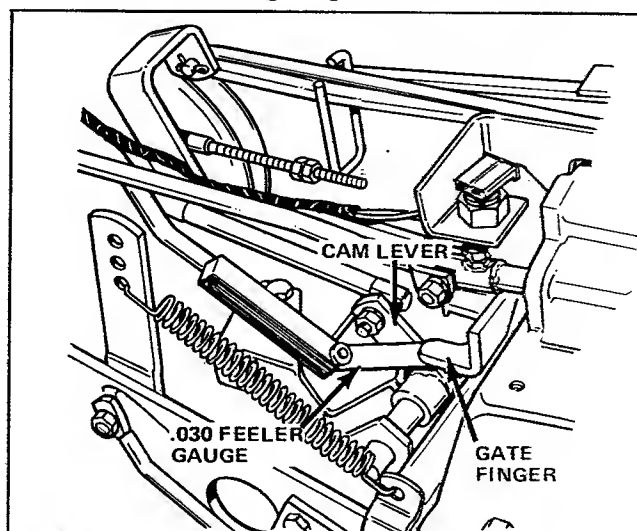

Figure 24. Transmission Brake Adjustment
2. Place a 0.030 inch feeler gauge between the cam lever and the gate finger, and release the clutch-brake pedal. The spring tension will hold the feeler gauge between the cam lever and gate finger (figure 24).